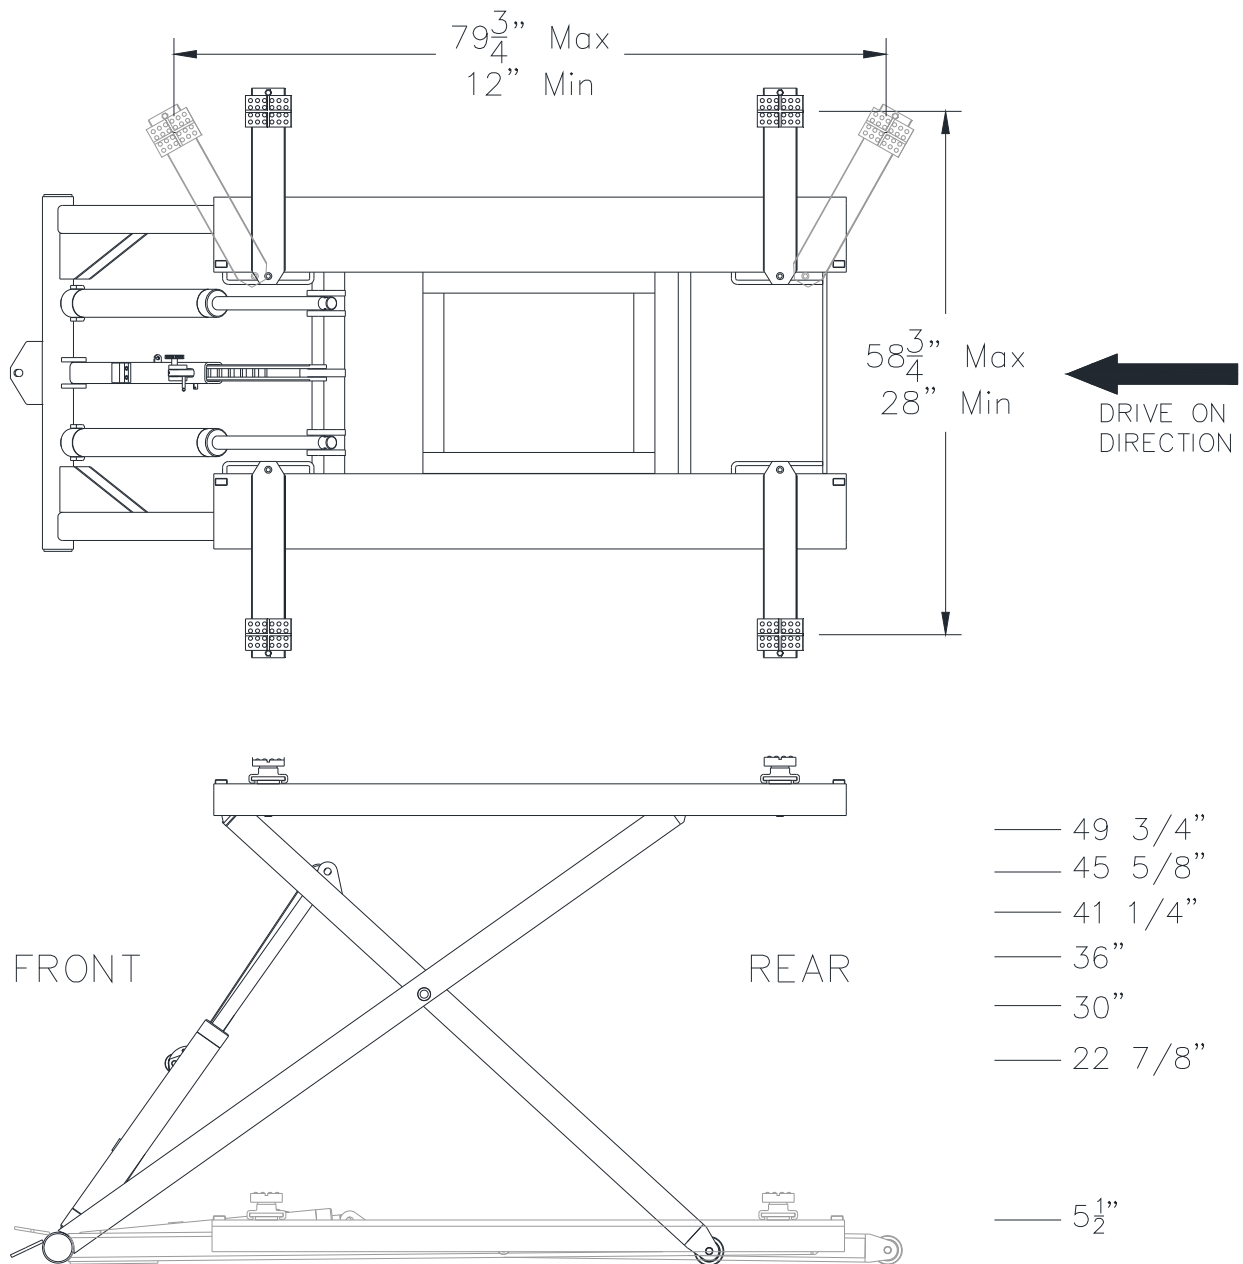
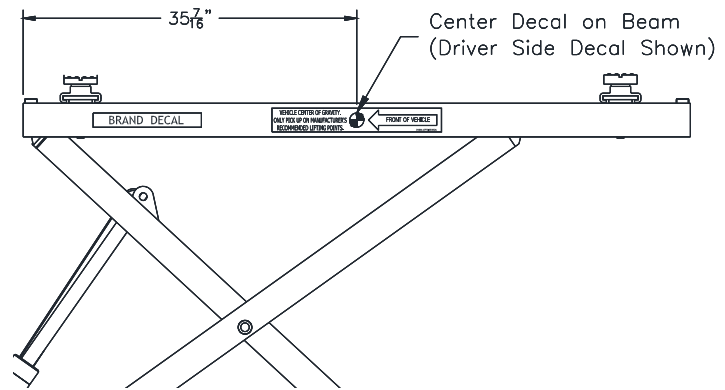

Fig. 1- General Specifications
Fig. 2 – Decal Placement
2. The center of gravity of the vehicle should be located directly over the marked location shown on the decal in **Fig. 2** in the fore and aft direction. The vehicle must also be centered side to side. See **Fig. 1** on page 2 for proper orientation of vehicle on the lift.